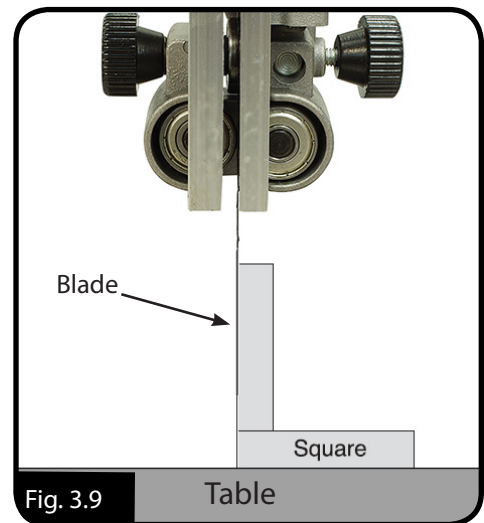

Fig. 3.9
4. Raise the guide post and place a machinist's square on the table next to the side of the blade, as illustrated in Fig. 3.9. Adjust the table square with the blade, then secure with the table tilt knobs.